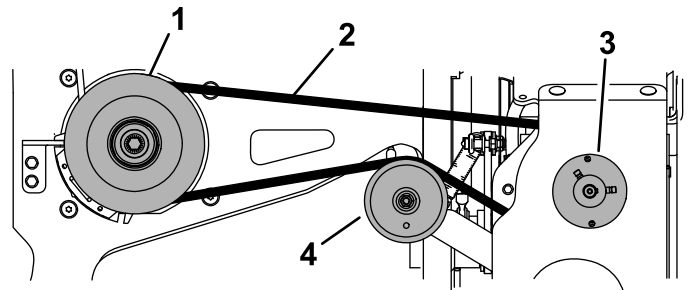

Figure 6
Route the belt around the machine clutch pulley and idler pulley (Figure 6).
4. Remove the belt (Figure 6).